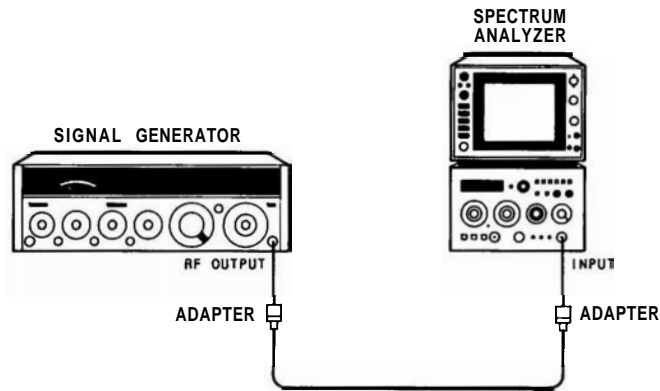

FIGURE 4-9. RESOLUTION BANDWIDTH ACCURACY TEST SETUP, 3 MHz TO 100 kHz
2. Connect equipment as shown in Figure 4-9.